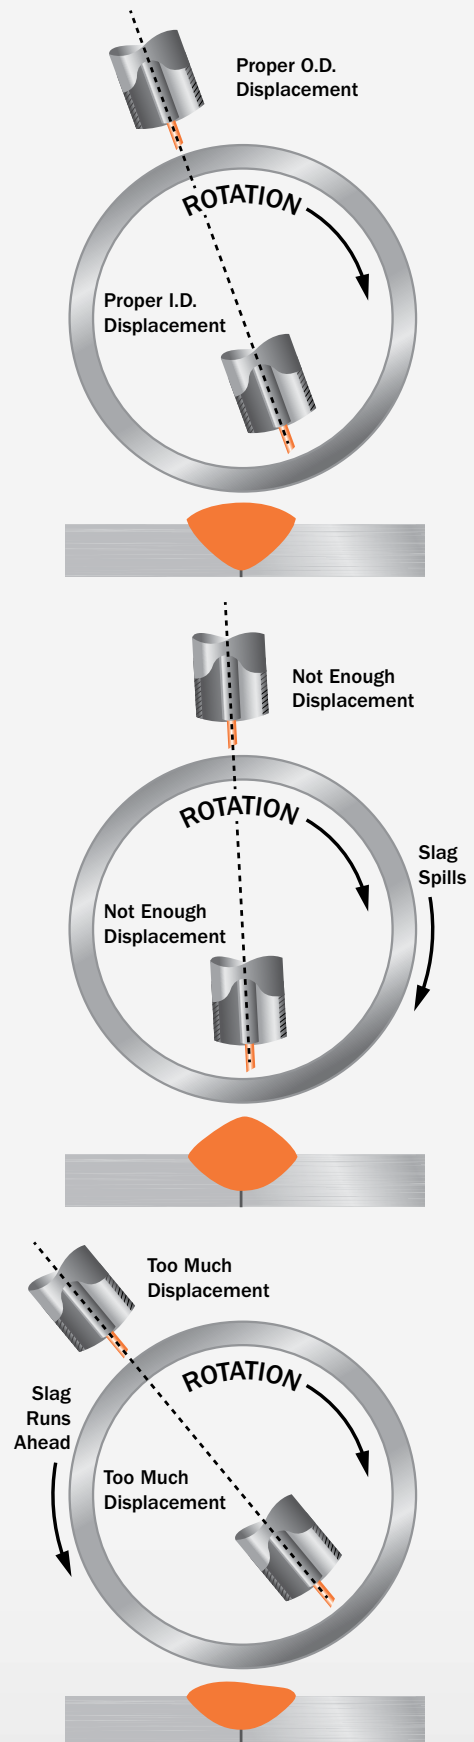

Figure 1 — Torch placement for circumferential SAW.
- For outside diameter welds, position the wire/weld pool ahead of the point to where the weld pool will travel uphill to the vertical center line of the weldment. For example, if making a weld on a pipe, the puddle would be at the 11 o'clock position for a clockwise rotation and the weld pool would be traveling to the 12 o'clock position as it solidifies (*Figure 1*). For outside diameter welds, angle the electrode toward the direction of travel. The amount of displacement from the center line (12 o'clock position) will vary with each cylinder diameter (*Table 1*).
- For inside diameter welds position the wire/weld pool ahead of the point to where the weld pool will travel downhill to the vertical center line of the weldment. For example, if making a weld on the inside of a pipe, the puddle would be at the 5 o'clock position for a clockwise rotation and the weld pool would be traveling to the 6 o'clock position as it solidifies (*Figure 1*). For inside diameter welds, angle the electrode away from the direction of travel. The amount of displacement from the center line (6 o'clock position) will vary with each cylinder diameter (*Table 1*).